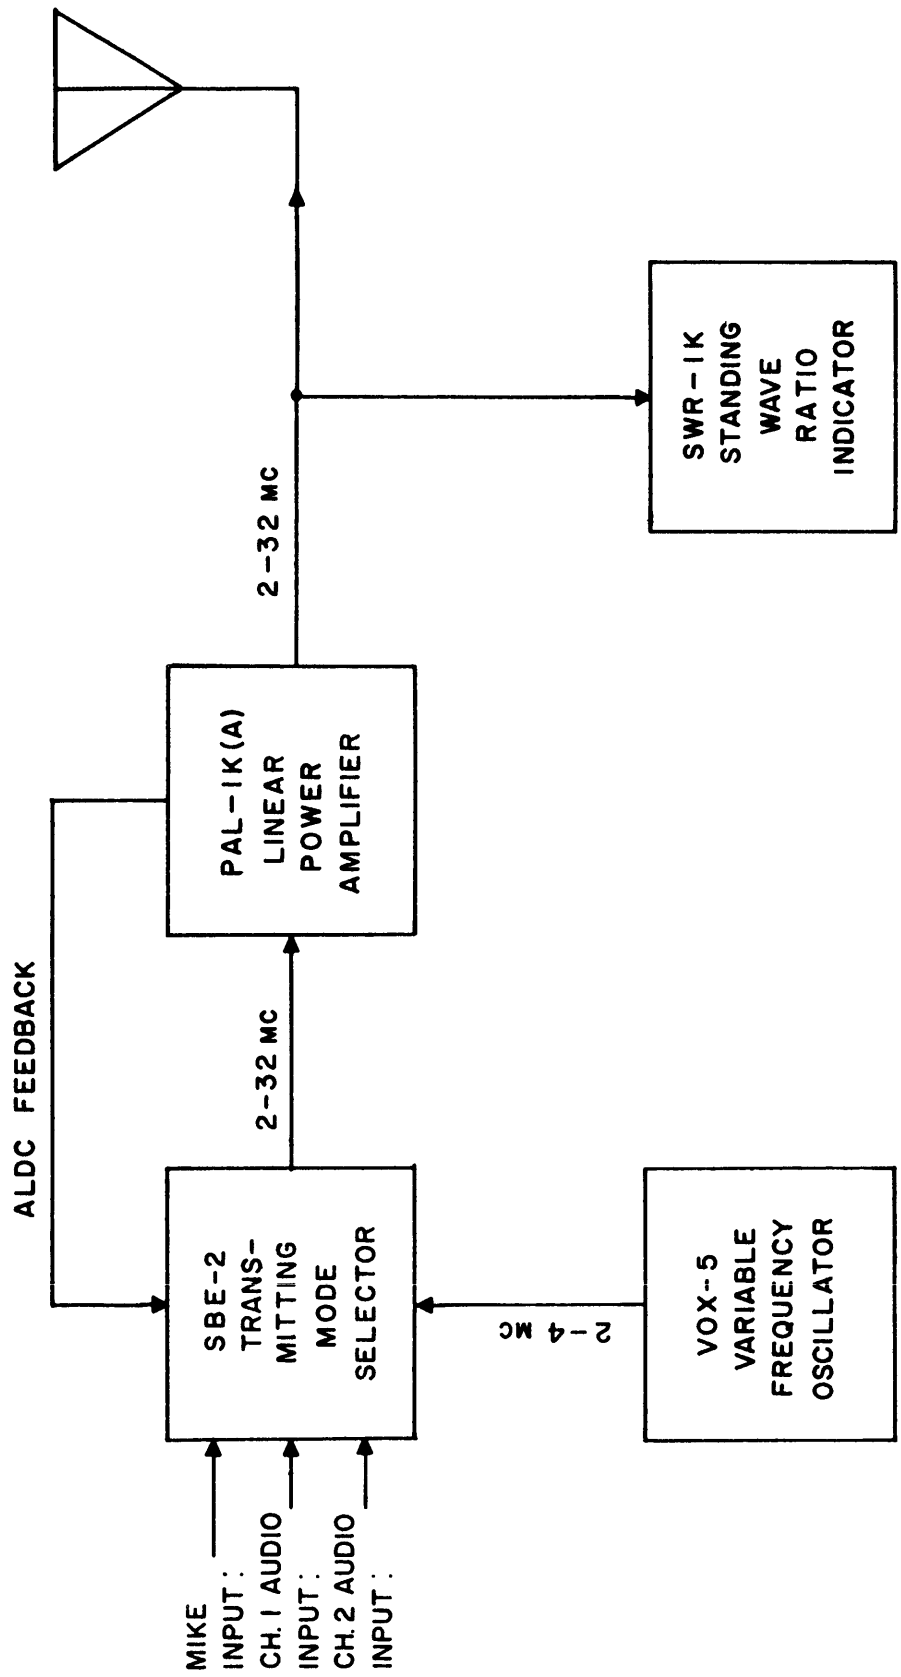

Figure I-4-1. Functional Block Diagram, SBT-1K(A)
Figure I-4-1 is a functional block diagram of the SBT-1K(A) transmitter, showing the main interrelationships of the SWR-1K, PAL-1K(A), VOX-5 and SBE-2. For a complete functional block diagram and schematic diagram of each unit, refer to the individual manual for the unit. Schematic diagrams for AX-198 RF Output Chassis, APP-4 Auxiliary Power Panel and RAK-9 rack wiring are shown in Part VI.
a. GENERAL - As shown in figure I-4-1, an audio input is translated into sideband or AM signals in the 2-32 mc range. The VOX-5 furnishes a continuously adjustable 2-4 mc as an injection frequency for one of SBE-2's modulation stages, thereby providing continuous adjustment for SBT-1K(A)'s 2-32 mc output. The output of SBE-2 is amplified up to 1 kilowatt by PAL-1K(A). The SWR-1K serves to reflect the VSWR (Voltage Standing Wave Ratio) on the antenna, in order to aid in tuning adjustments to match SBT-1K(A) to antenna. In CW transmission, the VOX-5 generates the 2-4 mc signal which is raised to 2-32 mc range in the SBE-2 and amplified in the PAL-1K(A). Keying is accomplished in the SBE-2. Although VOX-5 is capable of delivering 2-64 mc, only the output of its 2-4 mc master oscillator is used in the SBT-1K(A).